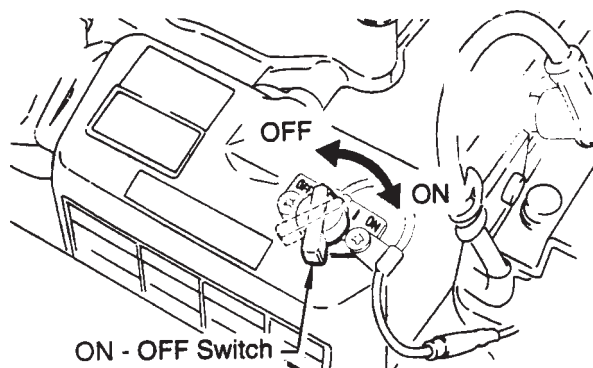

Figure 8. On/Off Switch
2. Set the engine ON/OFF switch (Figure 8) to the "ON" position (START).